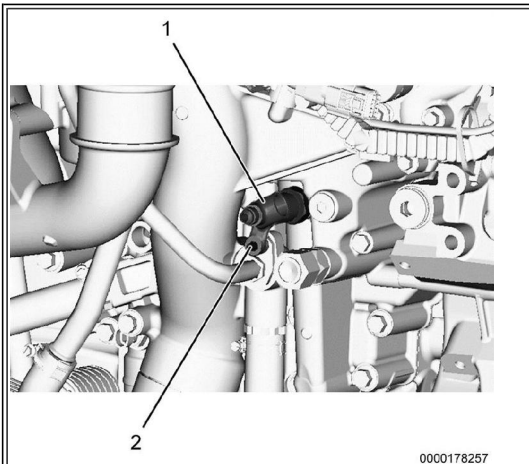

Figure 7: Oil Supply T-fitting.
18. Slide oil supply T-fitting (Figure 7, Item 1) over adapter assembly fitting and M6 stud bolt (Figure 7, Item 2).